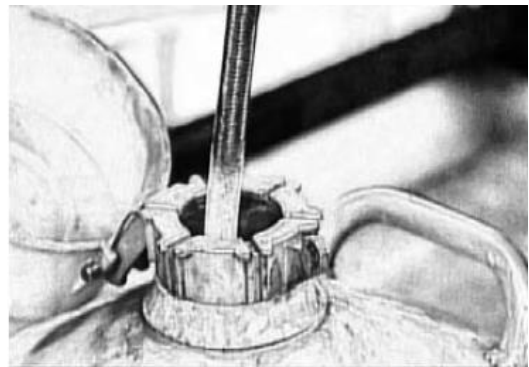

Fig 5-13 Freezing of Intake & Exhaust Valve Seats in Liquid Nitrogen
2.1 The GENERGY -series engines use united structure cylinder heads. Froze intake & exhaust valve seats into -180 degree liquid nitrogen, then install them into cylinder head (Fig 5-13).